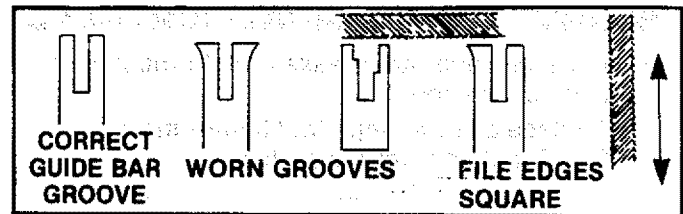

Figure 44
- d. Remove burrs by filing the side edges of the guide bar grooves square with a flat file. Figure 44.
- e. Restore square edges to an uneven rail top by filing with a flat file. Figure 44.